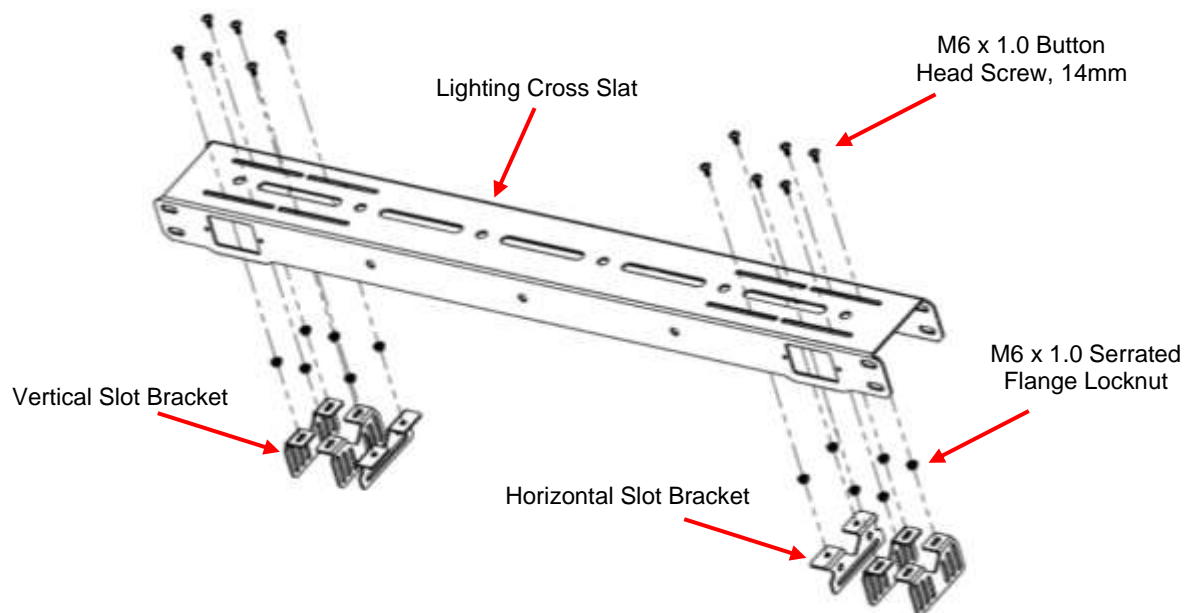

Figure 10
14. Using the supplied M6 x 1.0 Button Head Screws, and the M6 x 1.0 Serrated Flange Locknuts, mount the Horizontal or Vertical Slot Brackets as necessary. Use *Figure 10* below as a reference for positioning.